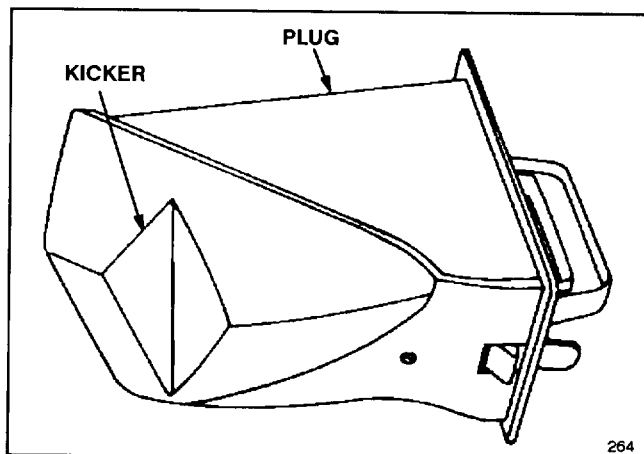

Figure 10
- C. A special plug which locks into the mower's discharge tunnel (a fourth kicker is on the plug) (Fig. 10)
It is possible to mow without using the plug by closing the discharge tunnel door. However, your lawn appearance will be much more satisfactory if you use the plug as it has an additional kicker (Fig. 10) that helps drive the clippings down into the grass.